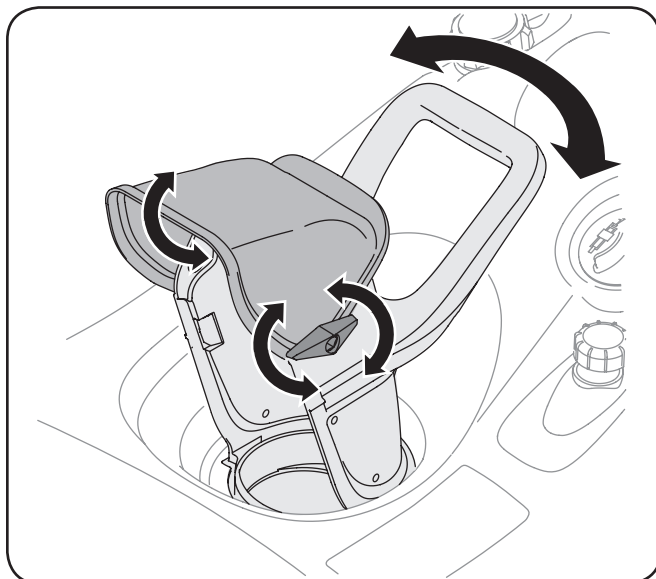

Figure 3-5
2. Position the chute assembly opening by using the chute handle to throw the snow in the desired direction. See Fig. 3-5.